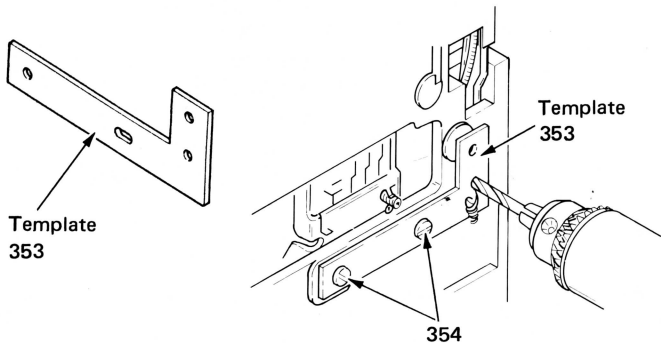

Figure 1A
1. Attach the drilling template (Figure 1A) to the machine frame as shown in Figure 1B. Drill the two holes with a No. 22 drill bit (P/N 450265) and remove template.